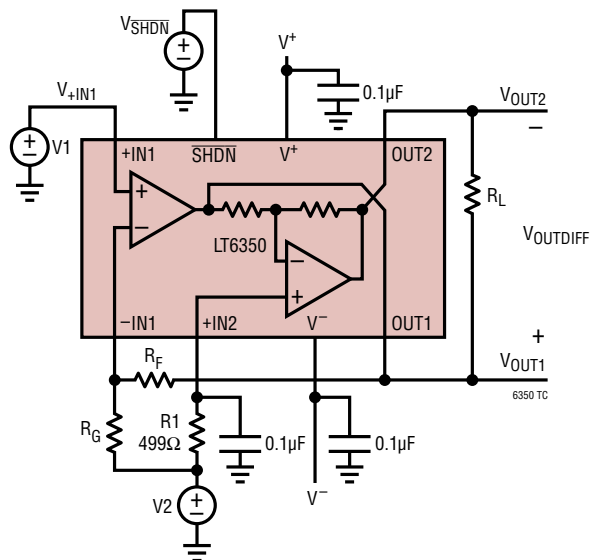

Figure 1. DC Test Circuit.
**Note 6:**  $V_{\text{OS2}}$  is measured as the total output common mode voltage offset (error between output common mode and voltage at V2).  $V_{\text{OS2}}$  includes the combined effects of op amp 2's voltage offset,  $I_B$ ,  $I_{\text{OS}}$  and mismatch between on-chip resistors and the  $499\Omega$  external resistor, R1 (See Figure 1).
$T_A = 25^\circ\text{C}$ ,  $V^+ = 5\text{V}$ ,  $V^- = 0\text{V}$ ,  $V_{+IN1} = V_2 = \text{Mid-Supply}$ ,  $V_{SHDN} = V^+$ ,  $R_F = \text{SHORT}$ ,  $R_G = \text{OPEN}$ ,  $R_L = \text{OPEN}$ . See Figure 1.